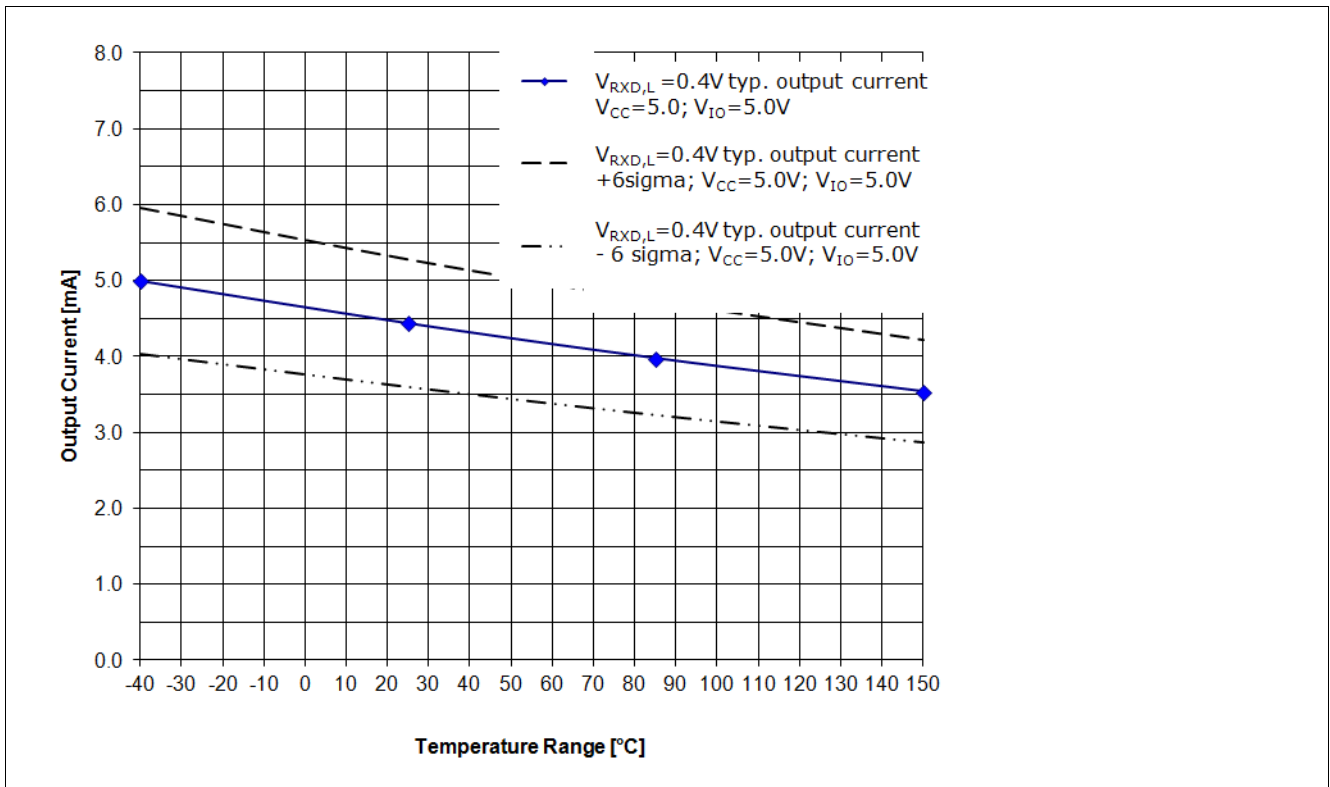
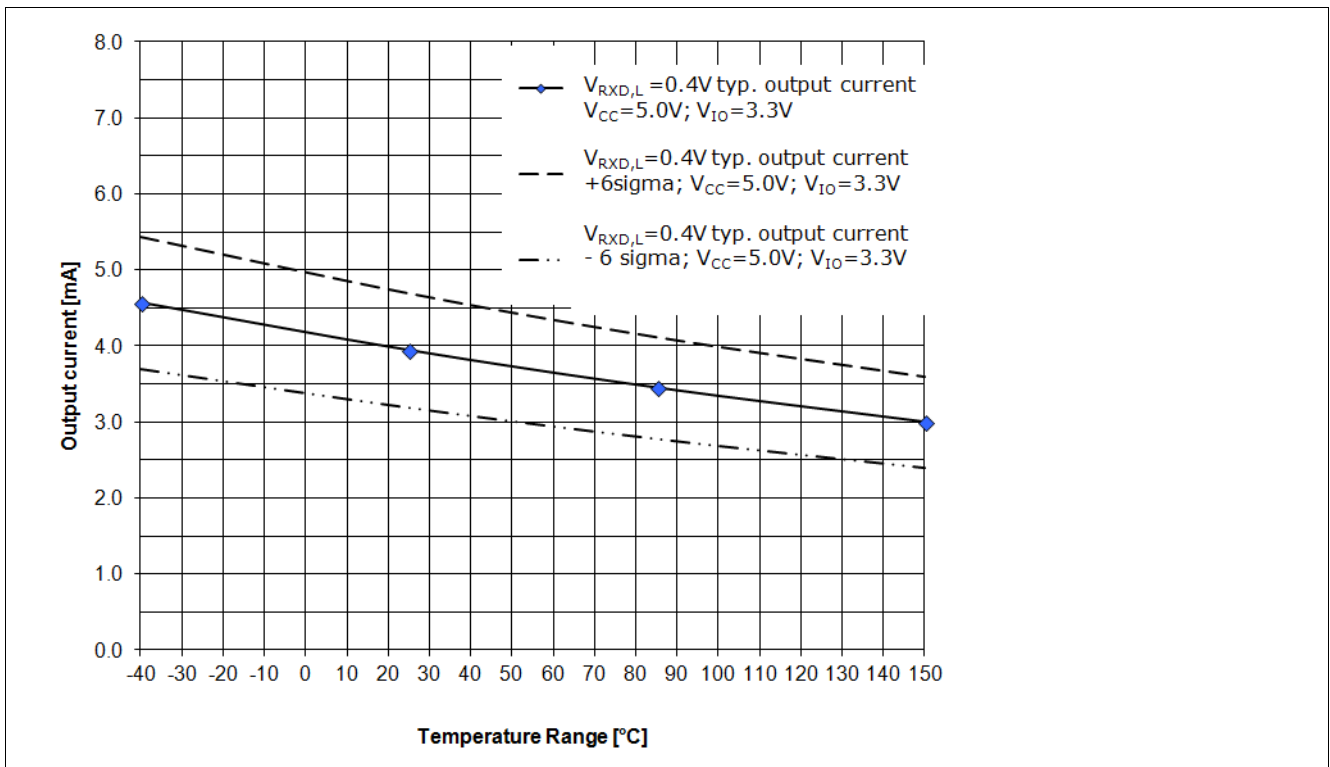

Figure 13 RxD Output driver capability for a logical “Low” signal $V_{\text{RXD,H}}=0.4\text{ V}$, $V_{\text{CC}}=5.0\text{ V}$, $V_{\text{IO}}=5.0\text{ V}$ ¹⁾
Figure 14 RxD Output driver capability for a logical “Low” signal $V_{\text{RxD,H}}=0.4\text{ V}$, $V_{\text{CC}}=5.0\text{ V}$, $V_{\text{IO}}=3.3\text{ V}^1)$
The diagram in Figure 13 and the diagram in Figure 14 show the current capability of the RxD output pin depended on the chip temperature T_J . Figure 13 shows the current capability of the RxD output pin at a V_{IO} power supply of 5.0 V and Figure 14 shows the current capability of the RxD output pin at a V_{IO} power supply of 3.3 V.
- The curve “VRxD,H = 0.4 V; **typ. output current**; VCC = 5.0 V; VIO =5.0 V;” displays the typical output current at the RxD output pin of the TLE8250GVIO (see Figure 13).
- The curve “VRxD,H = 0.4 V; **typ. output current + 6 sigma**; VCC = 5.0 V; VIO =5.0 V;” displays the expected maximum value of the output current at the RxD output pin (see Figure 13).
- The curve “VRxD,H = 0.4 V; **typ. output current - 6 sigma**; VCC = 5.0 V; VIO =5.0 V;” displays the expected minimum value of the output current at the RxD output pin (see Figure 13).
- The curve “VRxD,H = 0.4 V; **typ. output current**; VCC = 5.0 V; VIO =3.3 V;” displays the typical output current at the RxD output pin of the TLE8250GVIO (see Figure 14).
- The curve “VRxD,H = 0.4 V; **typ. output current + 6 sigma**; VCC = 5.0 V; VIO =3.3 V;” displays the expected maximum value of the output current at the RxD output pin (see Figure 14).
- The curve “VRxD,H = 0.4 V; **typ. output current - 6 sigma**; VCC = 5.0 V; VIO =3.3 V;” displays the expected minimum value of the output current at the RxD output pin (see Figure 14).